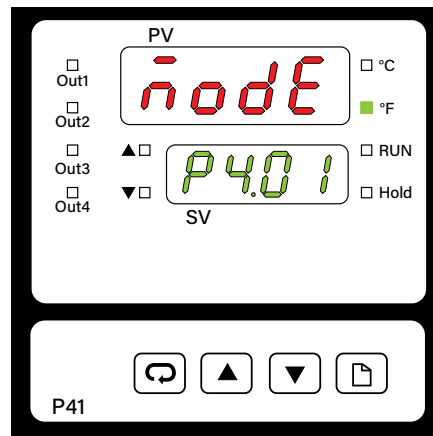

Figure 18
2. Press the  SCROLL key until the lower (green) display shows the profile and segment numbers in green (example: P4.01, is Profile 4, Segment 1). (See Figure 18).
3. Press the  UP or  DOWN keys to select the profile and segment numbers you want to run (example P4.01 (*P4.01*)). (See Figure 18).